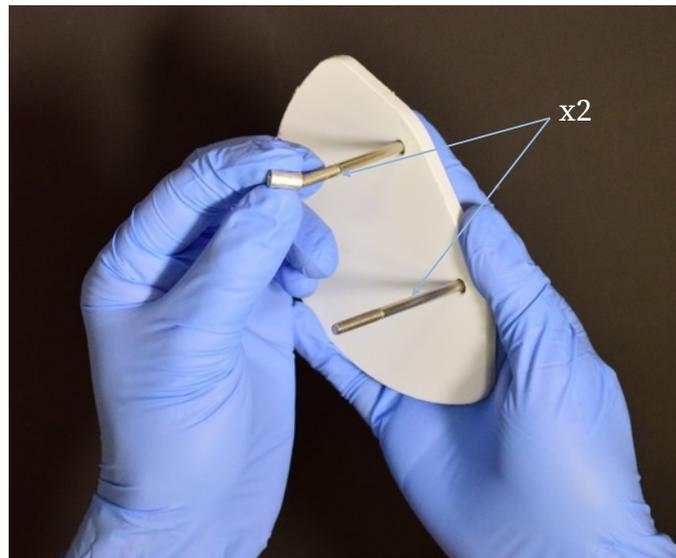

Figure 3
Step 4: Place one 4.2mm x 10mm spacers [Part 5] on each of the M4X65 screws [Part 4] that were previously inserted into the compressor (Fig. 3). A total of two spacers should be used on this step.